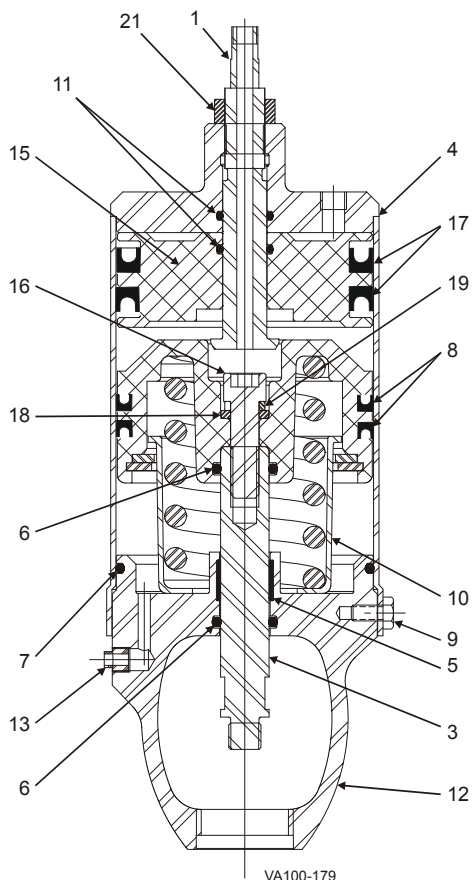

Figure 39: 4" Air-to-Lower 3-Position Actuator
1. Inspect the lower piston U-cup seal (Figure 39, item 8).
2. Remove the worn U-cup seal. Do not score or nick grooves in the piston (item 10).
5. Inspect the stem o-ring seal (item 6).
9. Inspect and replace the PTFE guide bearing (item 5) on the piston as needed.
10. Connect the piston and spring assembly to the stem (item 3) with the bolt (item 16).
11. Assemble the piston and spring assembly to the yoke (item 12).